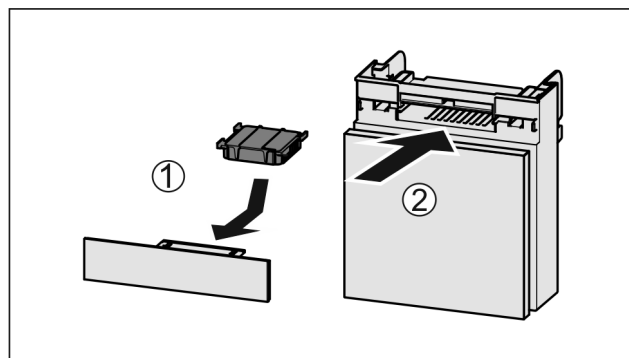

Fig. 182
- ▶ Insert the carbon filter as shown in the diagram Fig. 182 (1).
- ▶ Push the compartment in Fig. 182 (2).